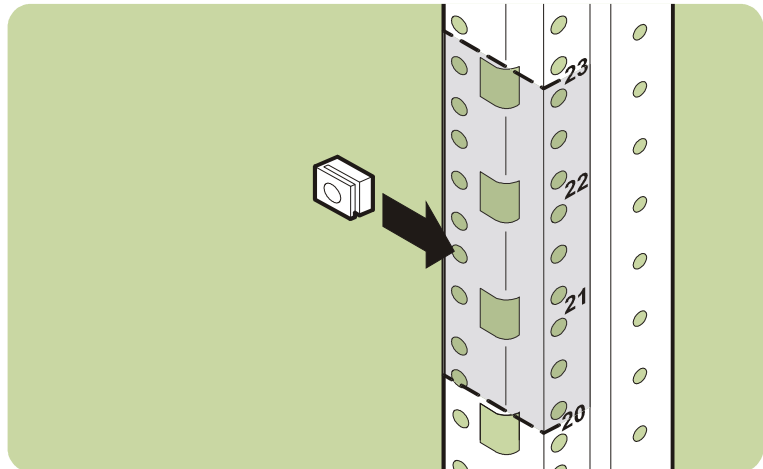

Fig. 13. Installing rail clip nuts in HP Rack System/E
4. Install one clip nut on the inside of each column (see Fig. 13).